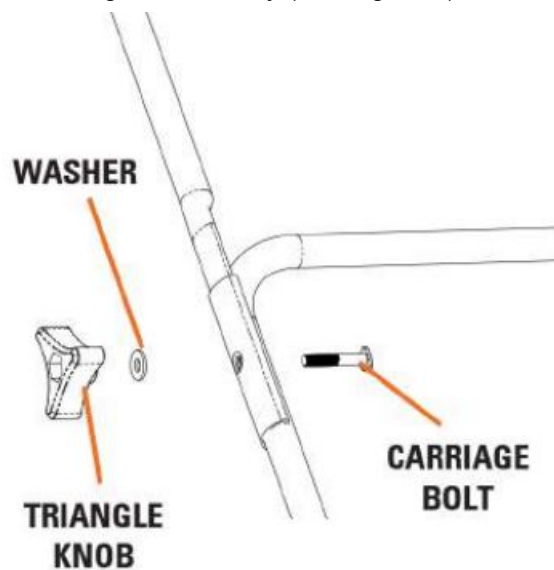

Figure 2
- Insert the carriage bolt through the holes in the upper handle, the lower handle and ,a washer and attach the triangle knob. Turn the triangle knob to tighten securely (see Figure 2).